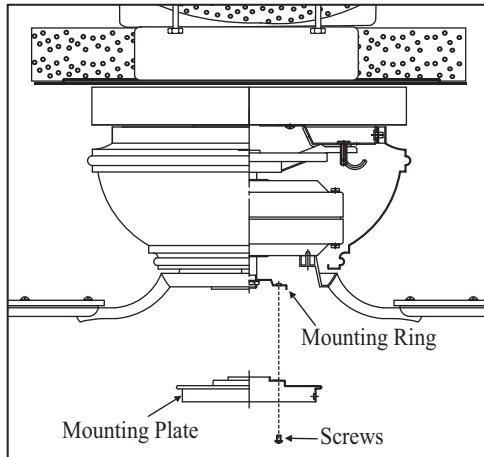

Figure 12
2. Place the key holes on the mounting plate over the 2 screws previously loosened from the mounting ring, turn mounting plate until it locks in place at the narrow section of the key holes. Secure by tightening the 2 screws previously loosened and the one previously removed. (Fig. 12)